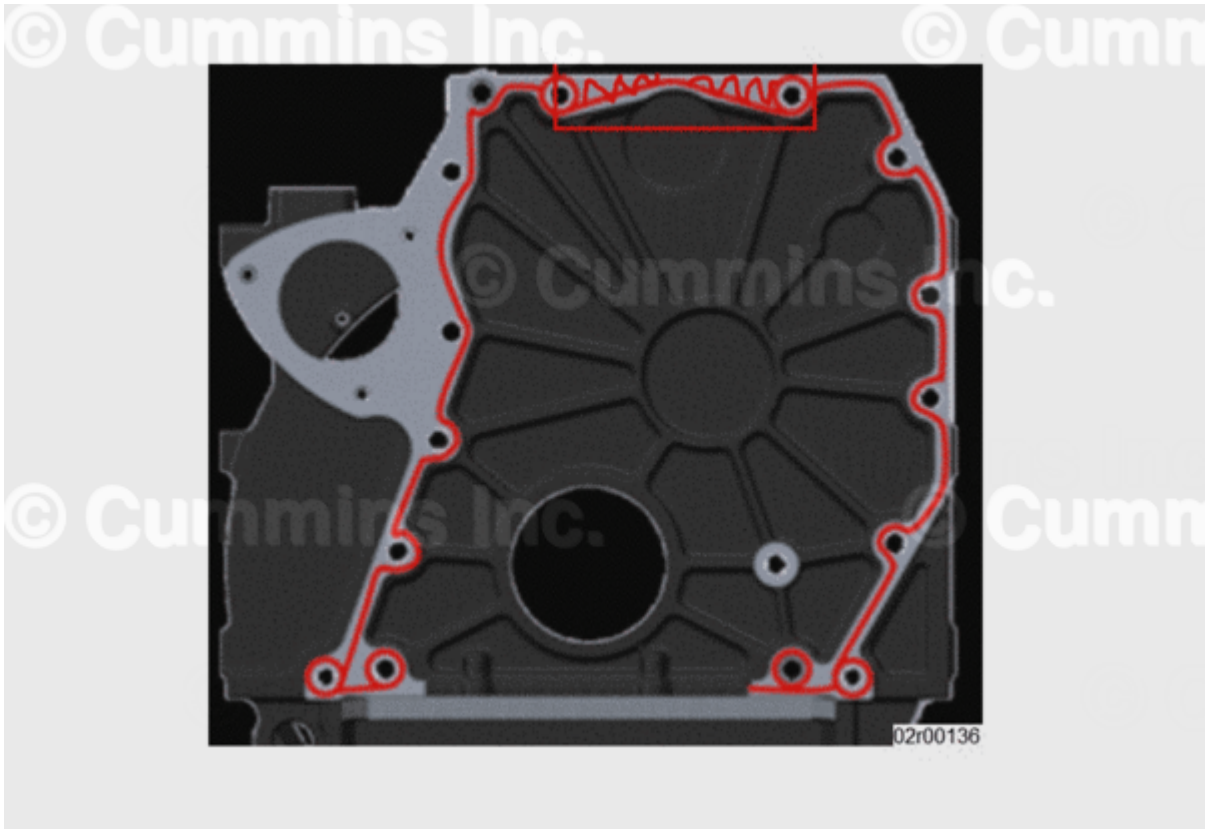

Figure 5, Position on Flywheel Housing to Apply Silicon Bead.
- Use Loctite® 5999, Part Number 5394646, instead of Loctite® 5188, Part Number 5394294, when installing the flywheel housing. Strengthen the silicon bead path at the top position of flywheel housing, see Figure 5 below.